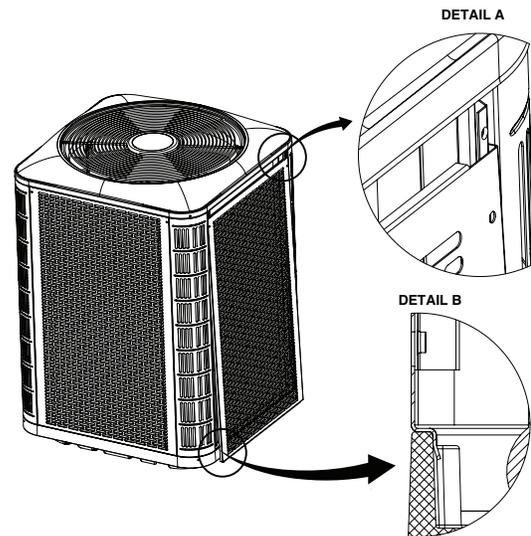

Figure 4. Panel Installation
1. Insert the top corners of side panel flanges into the corner post channels as shown in Detail A in Figure 4, (page 7).